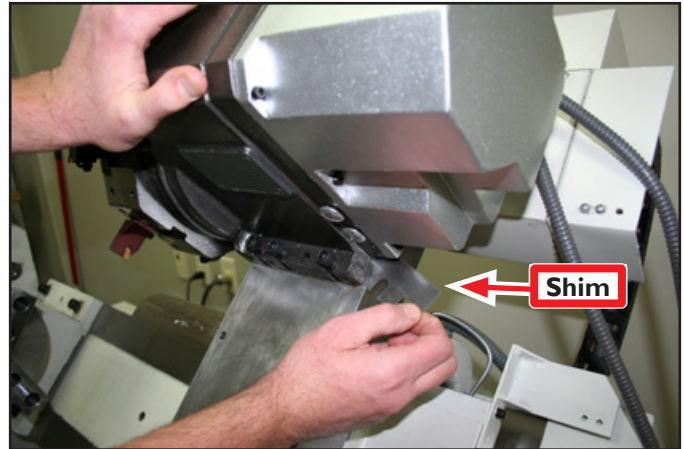

Figure 26
7. Add shims (from the included Shim Kit) to the front and back of the turret after loosening all six M10 x 40 mm Socket Head Cap Screws (see **Figures 26** and **27**).
8. To create gap necessary to add shims to front of turret, push forward on it (see **Figure 26**); insert required shim(s).